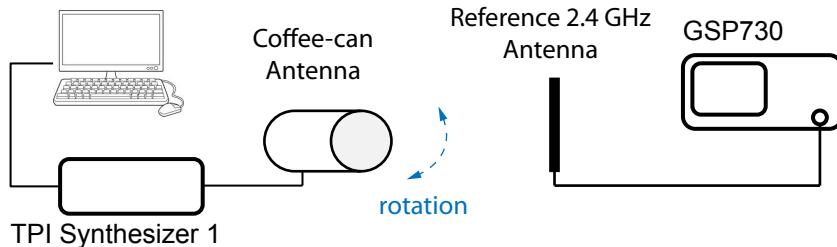

Figure 6: Measuring antenna gain using two identical antennas.
4. **Antenna Gain** You should be able to measure a signal at 2.4 GHz on your spectrum analyzer. Record the power of this signal, which will be your P_r) and calculate the gain of your antennas using (1). Make sure that you carefully take into account the loss of the connectors, adapters, and cables.
6. **(Optional) Antenna Pattern** After you have finished the above steps, the TA can show you to the anechoic chamber in the Kemper 3182 lab, where you can have the pattern of your antenna measured. Plot the pattern of your antenna in your lab report. Alternatively, you may also try to do a crude pattern measurement by yourself. Fig. 6 will give you some hint. Ask the TA for the reference 2.4 GHz antenna.